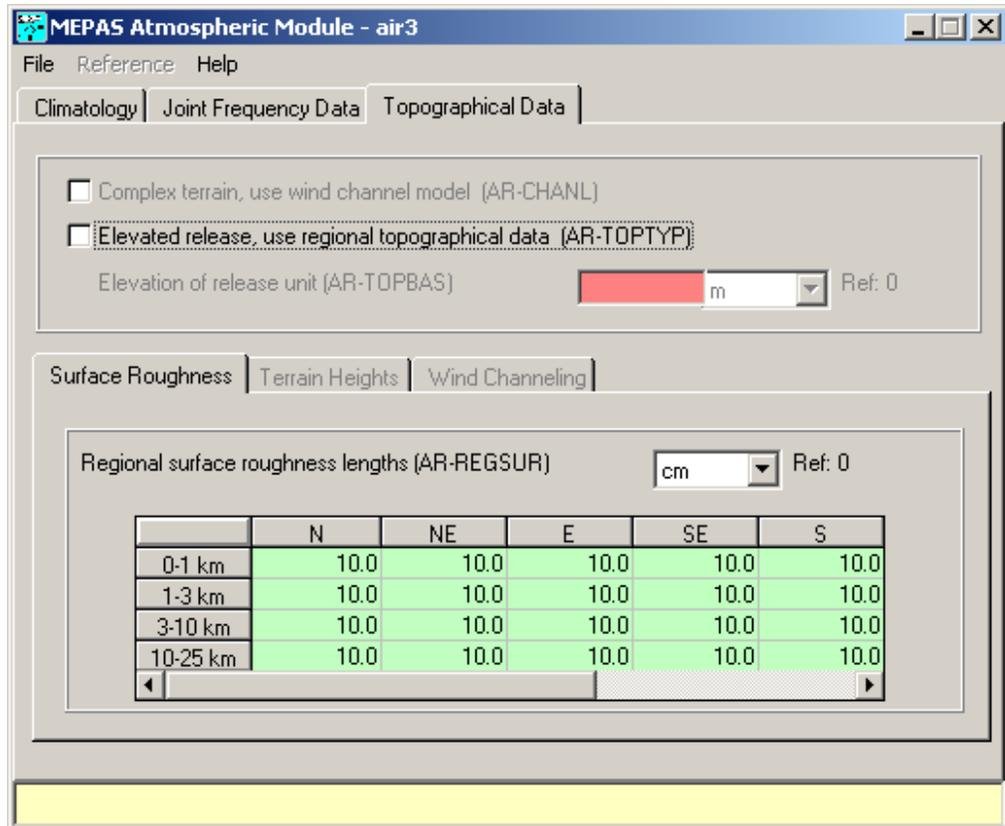

Figure 26. Mepas Atmospheric Module – Topographical Data tab
- The last tab is labeled “Topographical Data” and is used to enter information for elevated releases or information about the topography of the site if the terrain will be assumed to influence the atmospheric movements. For this example the default values will be used as shown in Figure 26 so no further input is required. Select “Save and Exit” from the File menu to return to the FRAMES work space. The status light next to the Air icon should turn yellow.